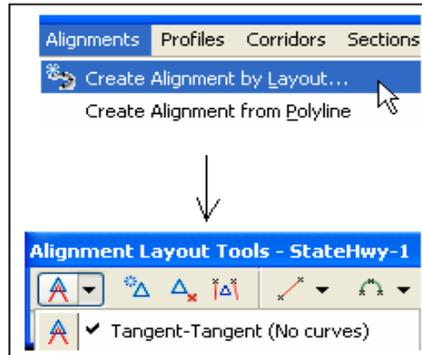

Figure 3: Creation of a Horizontal Alignment Example
**Creation of alignments:** Here there are three options for creating an alignment including (a) alignment with polylines, (b) alignment with LandXML, and (c) alignment with Layout Tools. After creating the initial alignment, they can be edited and labeled. The user has the option to save the alignment attributes in an alignment table as well as creating alignment reports. For example, to create alignments using “Layout Tools,” select “Alignments” and then “Create Alignment by Layout.” Then a “Name” needs to be provided and other settings (Styles, Station, etc.) must be selected. From “Layout Tools,” curve and spiral settings can be selected. Then, a start point needs to be specified, followed by other clicks on screen to define other point of intersection. To finish the alignment session, “Enter” or “ESC” keys may be used (Fig. 3).